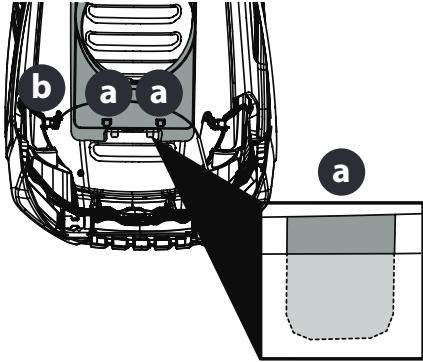

Figure 11
2. With the rear tabs installed, insert the front tabs (a) on the plenum (b) (Figure 11).